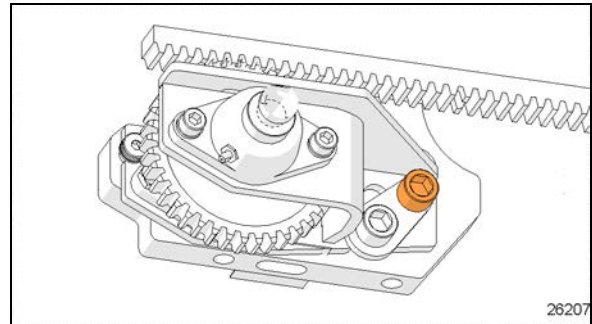
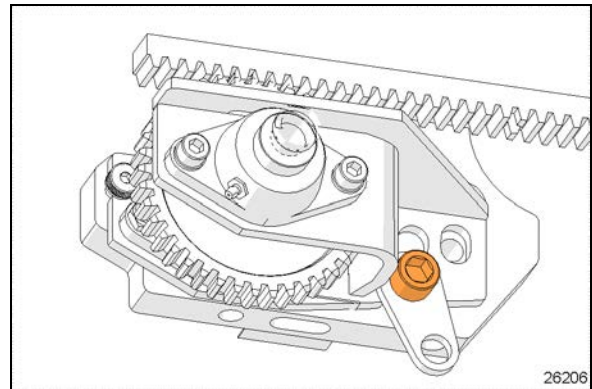

FIGURE 35: REMOVE UPPER SCREW
FIGURE 36: LOWER SCREW, TENSION RELIEVED
1. Remove upper screw as shown in Figure 35
2. Slightly unscrew the lower screw to remove tension on tab. (Figure 36)
5. Unscrew and remove the top pillow block mounting screws (7). Keep hardware.
6. Pull shaft (1) out
7. Remove old pinion gear (3). If key is damaged, replace with new.
8. On shaft (1), install thrust bushing (6), key (5), new pinion (3) and thrust washers (4).
9. Push shaft through bottom locking collar (2) and bottom pillow bearing until the shaft end contacts the bottom mounting plate.
10. Maintain shaft in contact with plate and lock bottom collar (2).
11. Using a drift and hammer, tension the eccentric locking collar (2) by means of one or two strong blows. There is a cavity on the collar made for that purpose.
15. On the pinion assembly, tighten upper and lower screws (Figure 35, Figure 36) to: **198 lb-ft (268 Nm)**